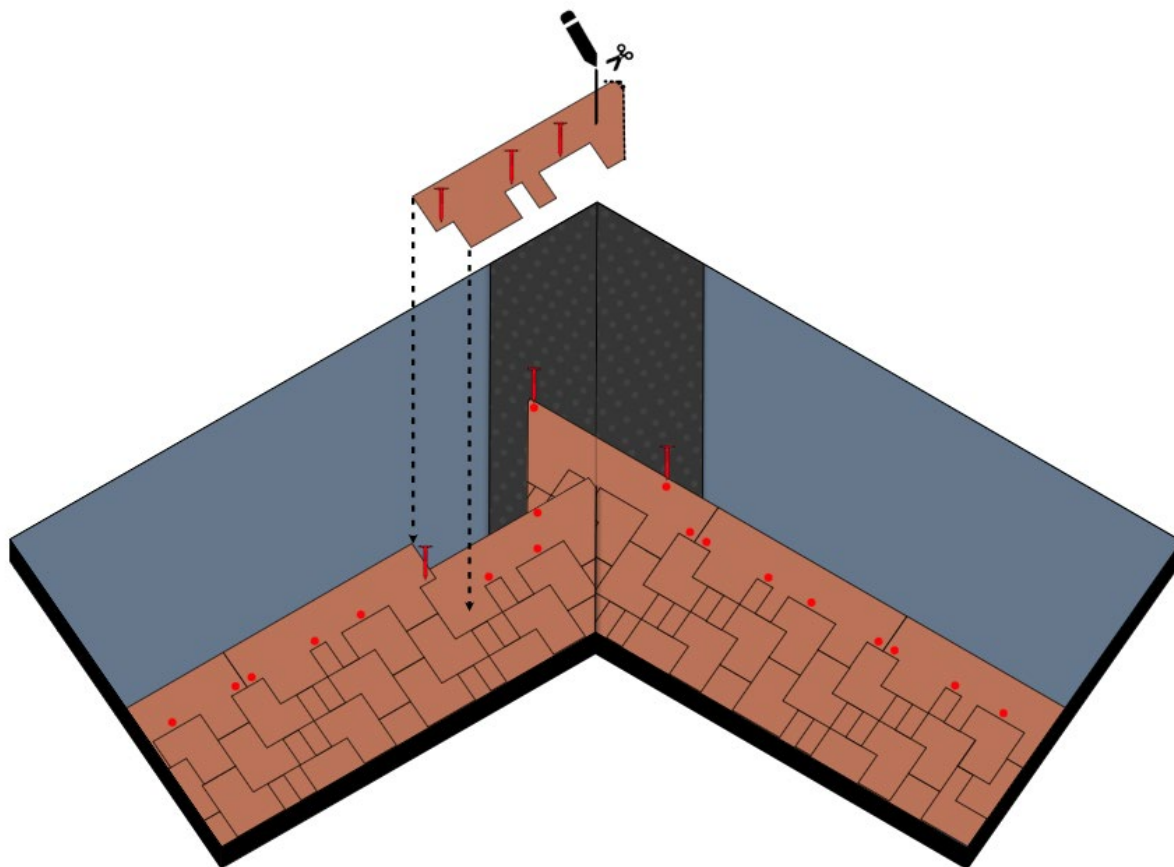

Fig. 13 - Shingles installation at valleys
- Once you have completed the first pitch for the entire length of the valley, move to the adjacent pitch. Start installing the shingles from the starting row and continue in successive rows. The last shingle in each row must reach at least the axis of the valley - Fig. 13.
- Nail the shingles up to 30 cm from the axis of the valley. Once the installation of the shingles is completed even for the second pitch, trace the axis of the valley. Then cut the shingles of the second pitch following the valley line. Cross-cut the top edge of the shingle at the valley - Fig. 13, so as to convey the descending water along the axis of the valley. Lift the shingles one at a time and fix them with the Bitustick- Fig. 13.